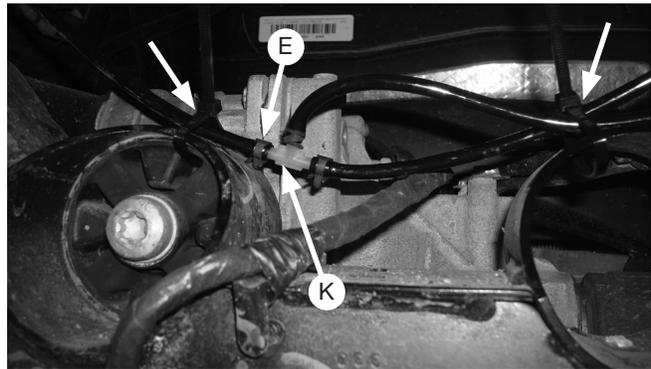

Fig. 8
8. With both air lines routed to the center above the crossmember, following the air line instructions in this installation guide and if running a single fill air line, install the tee (K) in the middle and attach to the crossmember with zip ties (fig. 8).